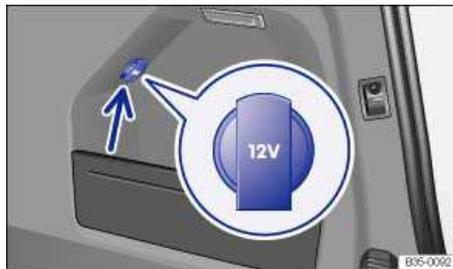

Fig. 130 In the luggage compartment: 12 Volt socket.
- In the luggage compartment ⇒ fig. 130.